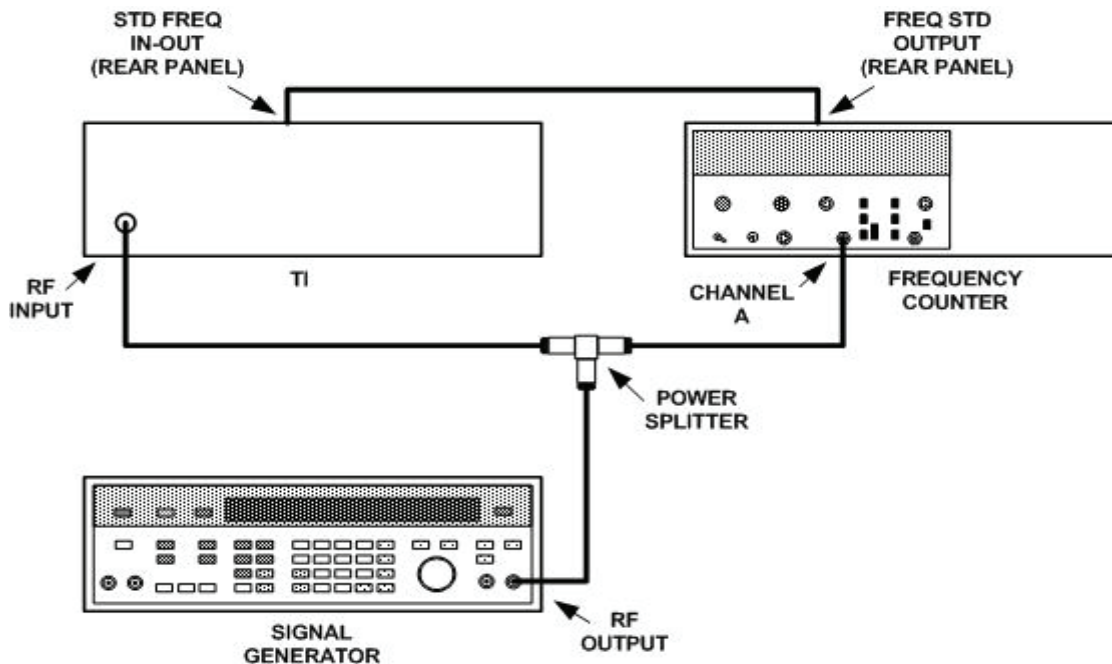

Figure 1. Frequency accuracy - equipment setup.
(1) Connect equipment as shown in figure 1.
(2) Press TI keys as listed in (a) through (e) below: